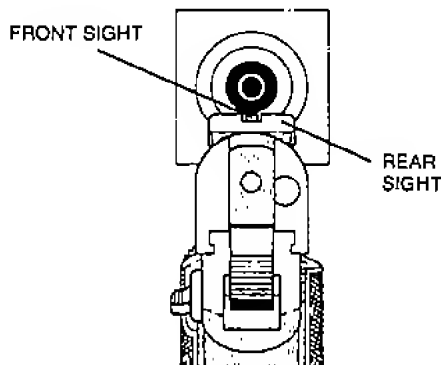

FIGURE 5—AIMING
3. Grasp pistol by stock and, keeping your finger outside the trigger guard, take aim. Aim by aligning target with front and rear sights. (See Figure 5). After identifying your target and seeing that it is clear to shoot, focus on the front sight. Be sure you have a safe backstop. THINK! What you will HIT if you MISS the target.